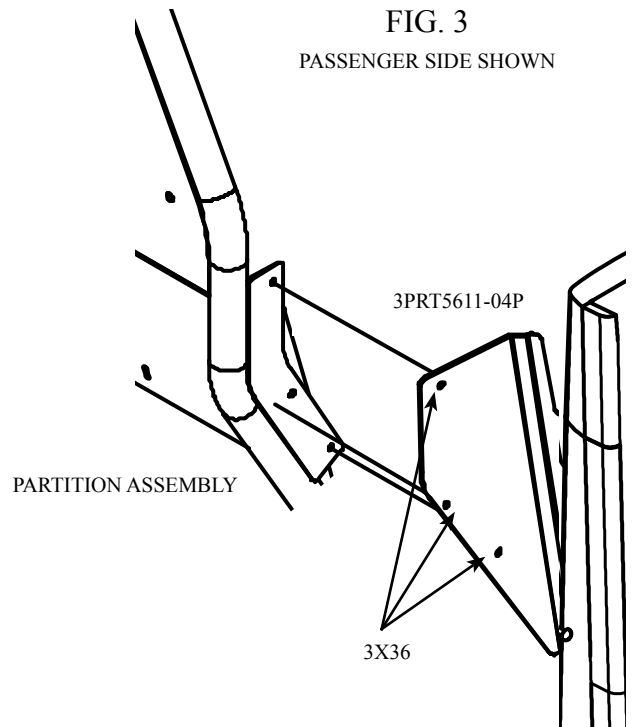

FIG. 3
A. Due to the weight and size of the partition, assistance from another party is highly recommended. Insert the partition into the vehicle, lift and position the partition so that it aligns with the Partition Mounting Plates, using the supplied 1/4-20 x 3/4" Carriage Bolts (3X36) and 1/4-20 Whiz nuts (3X16Z) secure the Partition to the Mounting Plates (See Fig. 3). Hand tighten only.